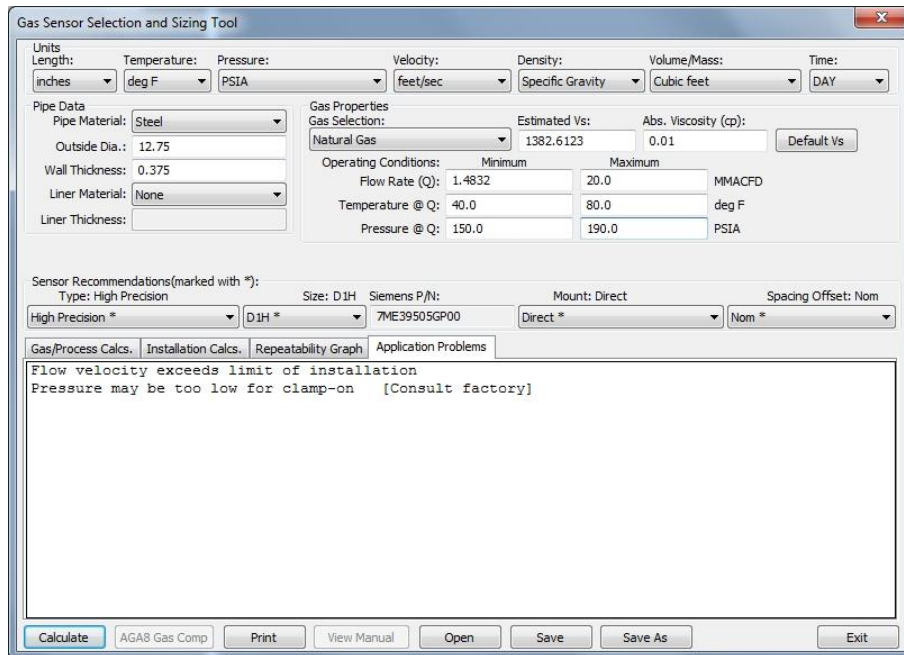

Figure 6-8 Gas Application Problems Screen
1. If any of your entered application parameters conflict with performance capabilities of the FS230 flowmeter an “Application Problem” message will appear at the bottom of the sizing screen; this will cause an additional tab to open [Application Problems] (See Figure 6-8 below). Click on the tab to view a description of the conflict(s). If no conflicts are present the tab will not appear.